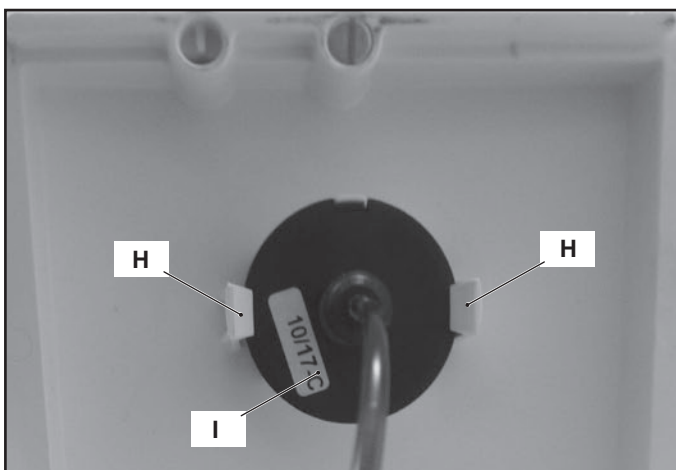

Figure 13.5
- 3 Squeeze the tabs "H" to release the temperature-pressure gauge "I" and remove it (Figure 13.5).